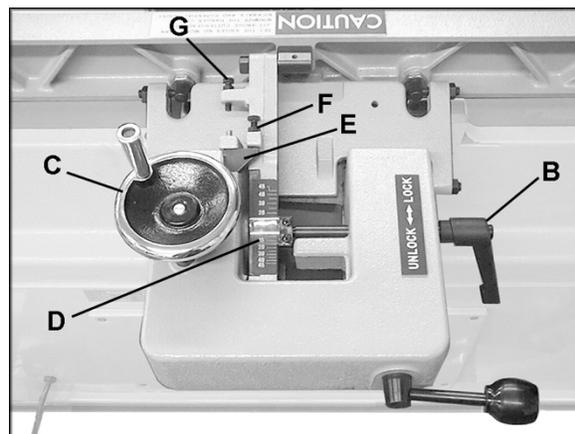
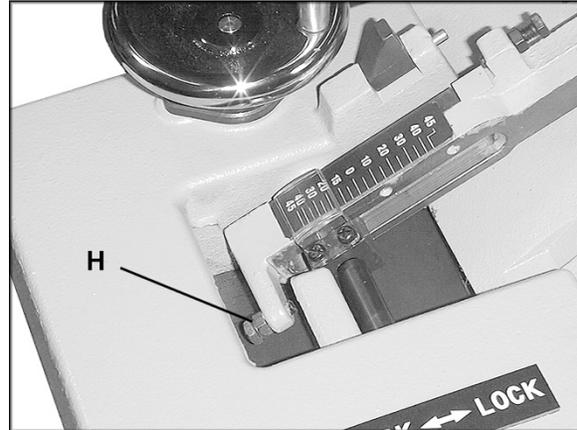

Figure 16
Figure 17
1. Loosen locking handle (B, Figure 16).
2. Flip the 90° stop block (E, Figure 16) out of the way.
3. Rotate handwheel (C, Figure 16) until the desired angle is indicated on the scale (D, Figure 16). Or you can place your beveled workpiece on the table and against the fence, and rotate the handwheel (C, Figure 16) until the angle of the fence matches the bevel of your workpiece.
4. Tighten locking handle (B, Figure 16).
forget to flip the 90° stop block (F, Figure 16) back to its original position.
1. The 90° stop is controlled by the screw (F, Figure 16) and the stop block (E, Figure 16).
2. Loosen the locking handle (B, Figure 16) and loosen the hex nut on the screw (F, Figure 16).
4. Move the fence until it fits flush against the angle measuring device. Turn the screw (F, Figure 16) until the screw contacts the stop block (E, Figure 16).
5. Tighten the hex nut on the screw (F, Figure 16) and the lock handle (B, Figure 16).
1. The 45° forward stop is controlled by the screw (H, Figure 17).
2. Loosen the locking handle (B, Figure 16) and loosen the hex nut on the screw (H, Figure 17).
4. Rotate the screw (H, Figure 17) until it contacts the casting in front of it.
5. Tighten the hex nut on the screw (H, Figure 17) and tighten locking handle (B, Figure 16).